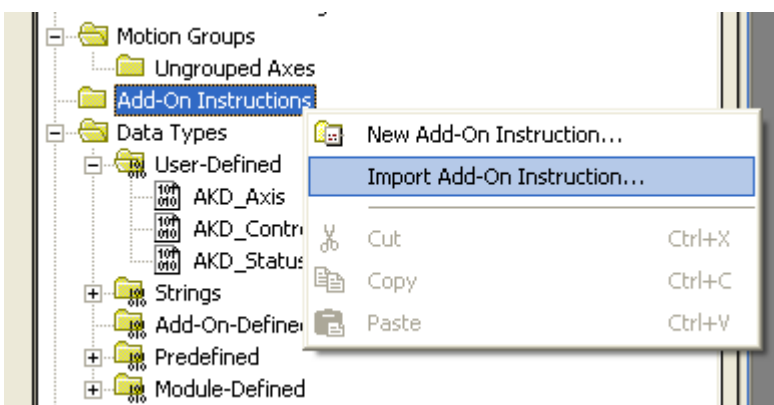

Figure 5-9: Importing Add-On Instructions
- Next, to import the add-on instructions, right click on the “Add-On Instructions” folder and select “Import Add-On Instruction...” (Figure 5-9: Importing Add-On Instructions)